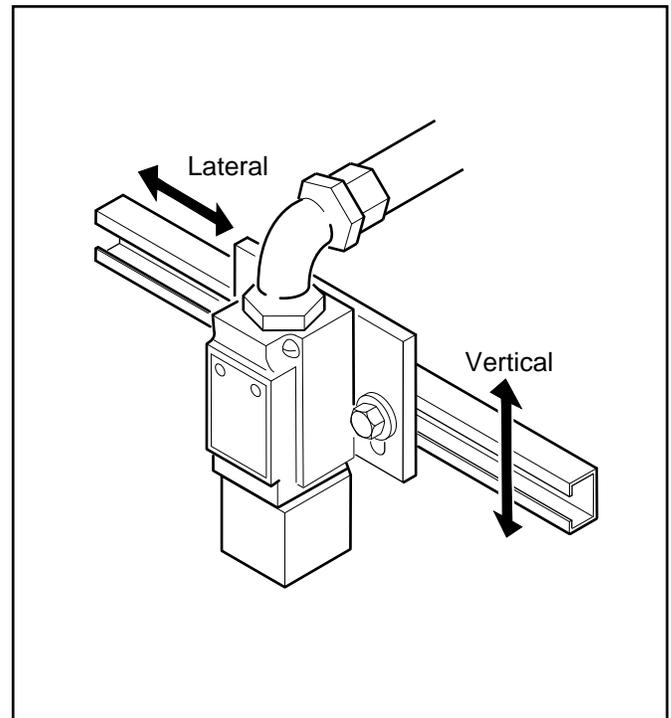

Figure 3.8 PRS Adjustment
4. As needed to obtain the 1/4 inch [6 mm] space, adjust sensor position by moving the mounting bracket vertically as shown in Figure 3.8.
6. With PRS-4 or PRS-10, the stop must also be centered on the crawler rails. If necessary, adjust PRS-4 or PRS-10 bracket laterally to adjust for the center stop. See Figure 3.8.